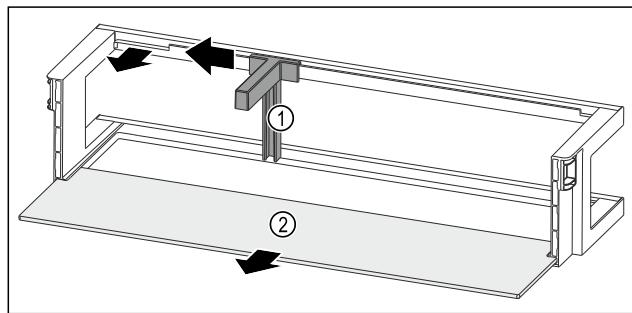

Fig. 144 Door rack with bottle holder and shelf
- Slide the bottle holder Fig. 144 (1) to the side as far as the recess.
- Remove the bottle holder Fig. 144 (1).
- Remove the shelf Fig. 144 (2).